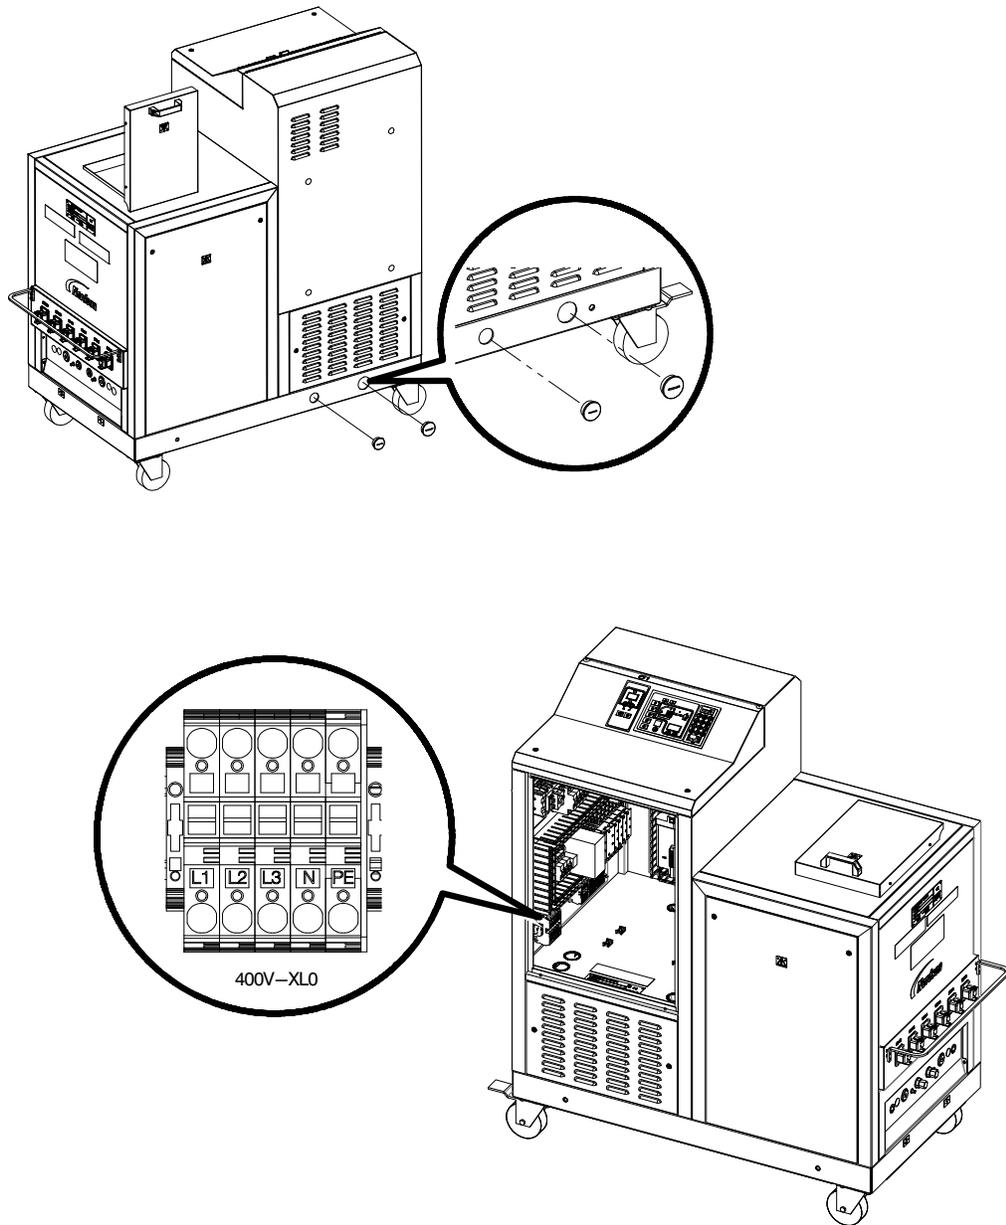

Figure 3-3 Location of service wiring strain relief and terminal block
1. See Figure 3-3. Route the power cable into the electrical cabinet through the strain relief on the side of the base.
2. Connect the power cable to the service terminal block as indicated in table Table 3-1 and illustrated in Figure 3-3.